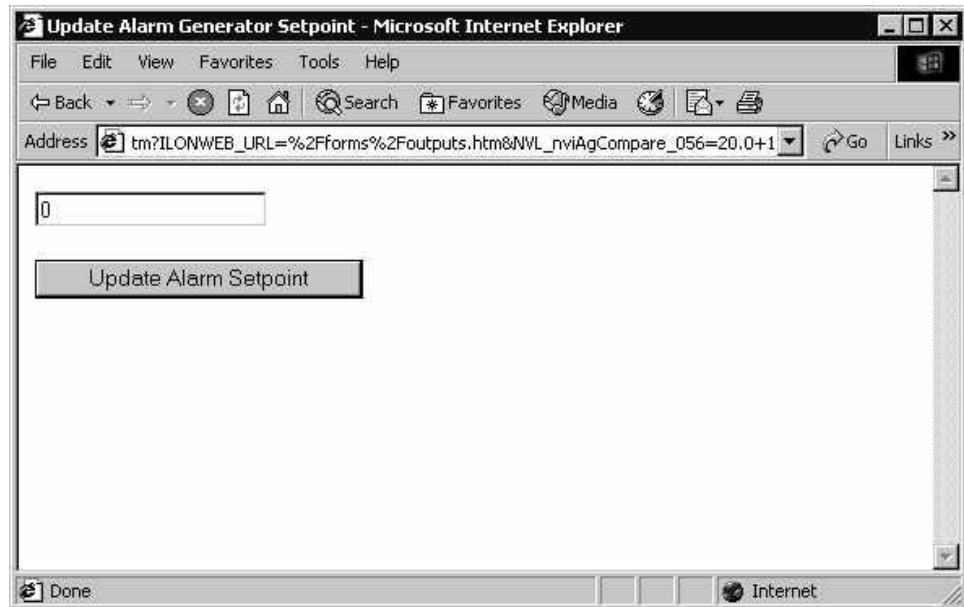

Figure E.2 Web Page Displaying Output Network Variable
7. Enter `http://24.1.7.251/forms/outputs.htm` (where 24.1.7.251 is the *i*LON's IP address) in the browser URL window to display the Web page shown in Figure E.2.